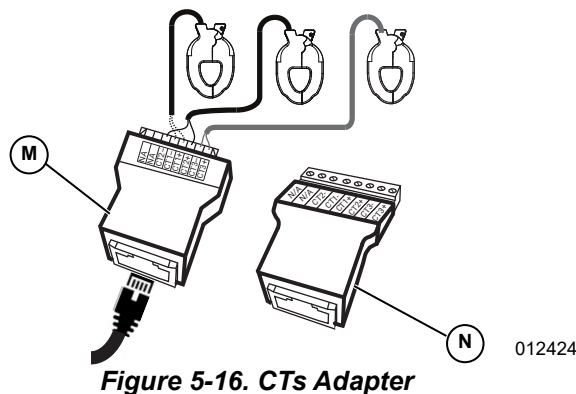

Figure 5-16. CTs Adapter
- See Figure 5-16. Connect CT leads to the CTs Adapter with push terminals (M) or screw terminals (N) according to the label on the breakout adapter.